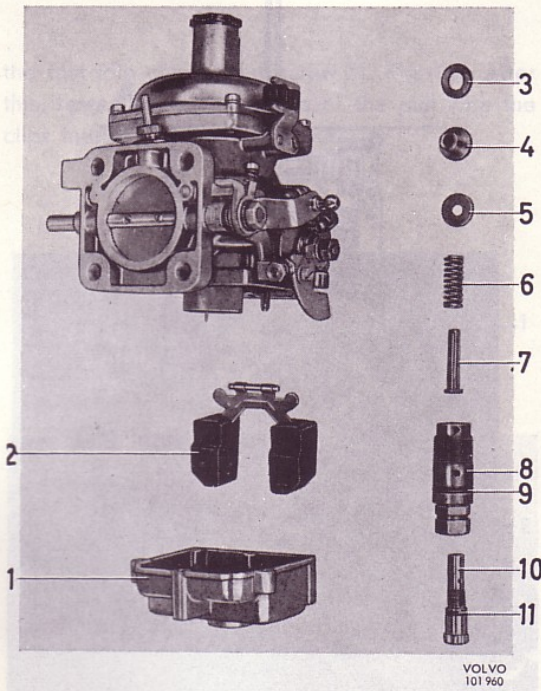

Fig. 89. Floatchamber dismantled
1. Screw up the orifice adjuster until the top of the orifice is just above the bridge. Slacken off the whole jet assembly (8, Fig. 89) a couple of turns.
5. Remove the floatchamber (1, Fig. 89).
7. Unscrew and remove the jet holder (8) together with the adjusting screw (10), the jet (7), the spring (6), the guide (4) and the washers (3 and 5).
4. Screw in the adjusting screw (10, Fig. 89) together with a new O-ring (11) into the jet holder (8). Fit a new O-ring (9) on the jet holder.
5. Fit the spring (6), the brass washer (5), the guide (4) with a new O-ring and light-alloy washer (3) on the jet, and fit the entire assembly together with the jet holder and adjusting screw into the main carburettor body. Screw in the jet holder by hand but do not tighten it. Screw in the adjusting screw until the upper part of the jet lies against the air valve when the latter is at its lowest position. Centre the jet and the guide according to the instructions given in "Centralizing the jet" on page 46.
6. Fit the float (2) with shaft. The flat side of the float should be facing away from the main carburettor body.